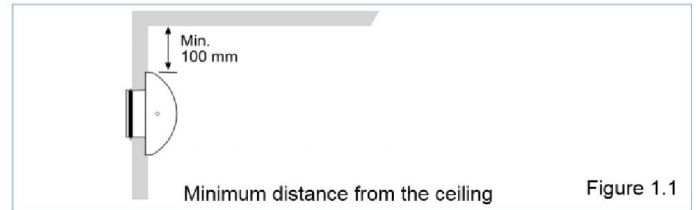

Figure 1.1
1. Drill holes into the wall for wires and fixing screws (4), using the cutout template supplied with the delivery (for the cutout template see Appendix 1).
2. The minimum distance of the supply air unit from the ceiling is 100 mm (see Figure 1.1).
3. Remove the two fixing screws (3) of the perforated cover (2) and pull the cover away from the rear part (1).
4. Push the collar of the rear part inside the supply air duct and fix the rear part to the wall, using four screws (4) Ø max 5 mm).